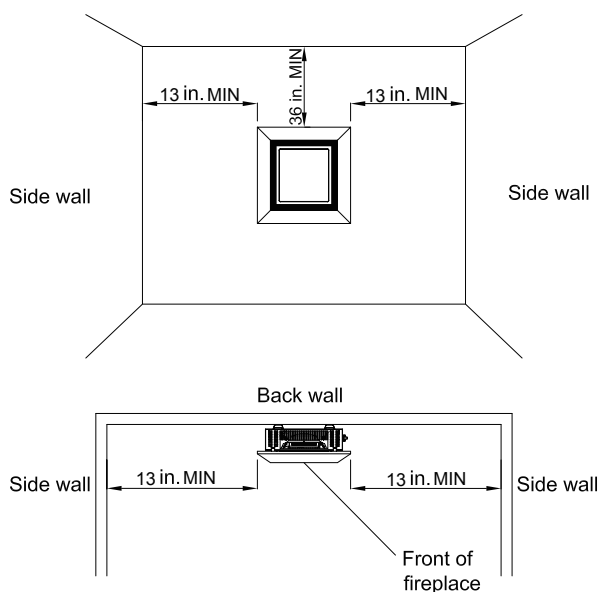

Figure 5 - Mounting clearances as viewed from front of heater
**⚠ WARNING:** Maintain the minimum clearances shown in Figure 5. If you can, provide greater clearances from floor, ceiling, and joining wall.